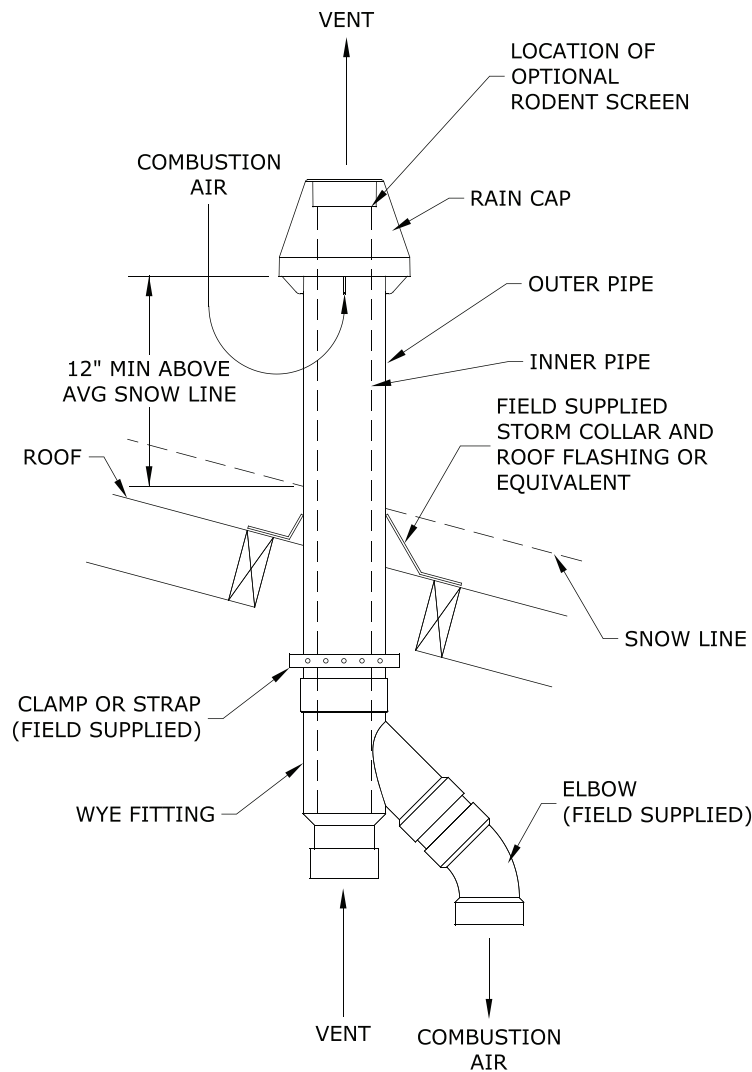

Figure 7.34: Installation of IPEX and DiversiTech Concentric Terminal Through Roof
7. Installation of IPEX FGV or DiversiTech CVENT Concentric Vent Terminal (Terminal Options D,E,I & J) - This terminal may be used for either horizontal or vertical venting. See Figure 7.33 for horizontal installation or Figure 7.34 for vertical installation. When PVC is used for venting a 30" CPVC straight section and CPVC elbow must be used prior to connection of the vent system to this terminal. If the vent system is too short to permit this, use the IPEX FGV CPVC terminal: